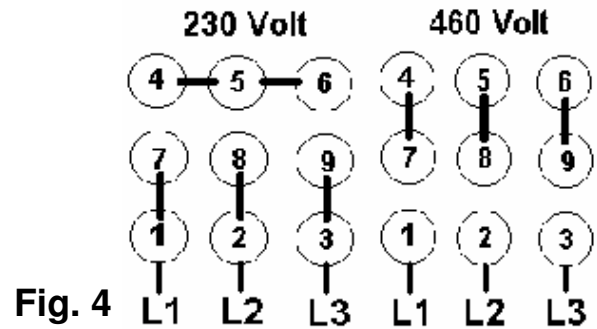

Fig. 4
7. Re-connect the wires as seen in (Fig. 4).
8. Separate the wire bundle with wire number 2 and re-connect as seen in (Fig 4).
9. Separate the wire bundle with wire number 3 and re-connect as seen in (Fig 4).